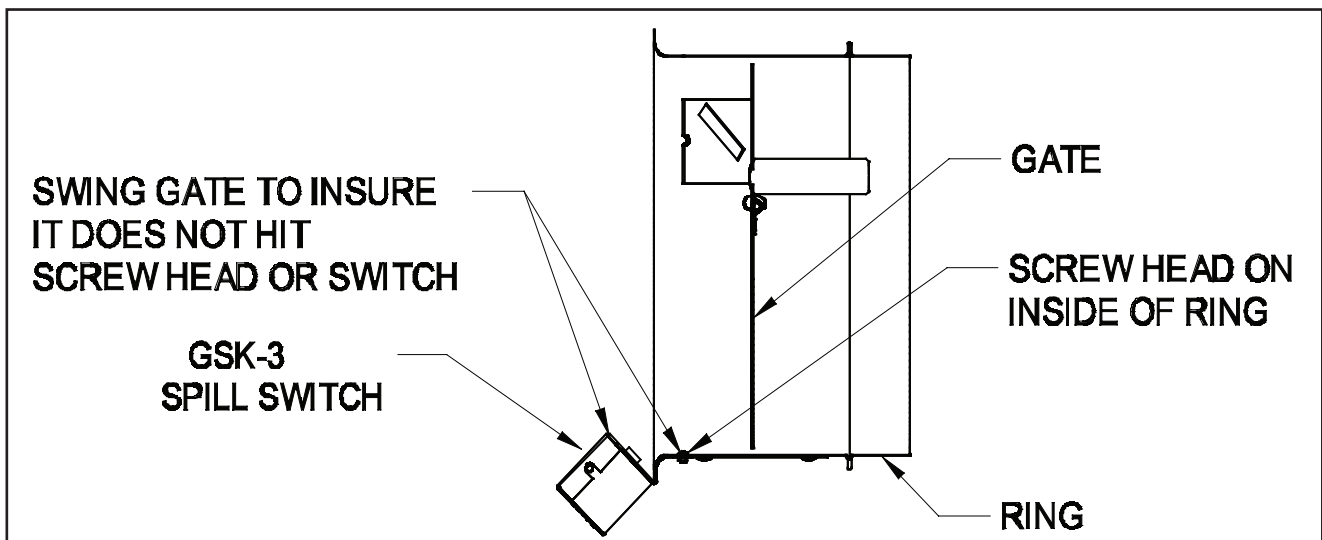

Figure 8
2. Mount the switch with the supplied #5-40 machine screw and nut. Note, the head of the screw is to be on the inside of the ring. (See Figure 8)